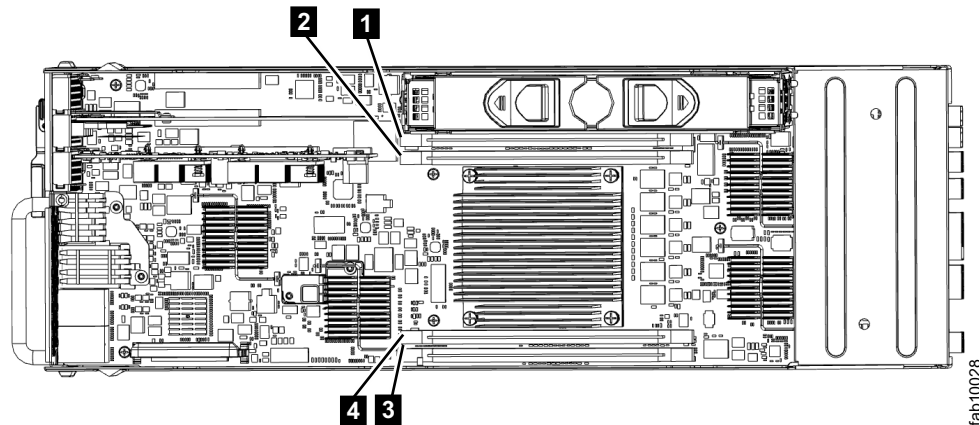

Figure 45. Installing a Storwize V7000 2076-524 node canister memory module
4. Locate the DIMM slot with the faulty DIMM. Slot 1 is next to the battery area. Slot 2 is next to the processor. The slots are marked **1**, **2**, **3**, **4** as shown in Figure 45 on page 185 .
8. Gently place the DIMM in the slot. Ensure that the notches in the DIMM align with the shape of the slot, as shown in Figure 45 on page 185.